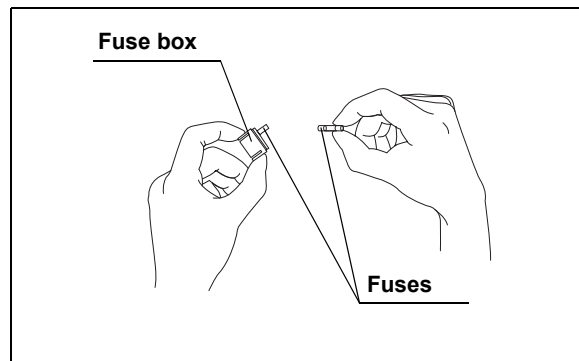

Figure 6.2
3. Replace both fuses (see Figure 6.2).